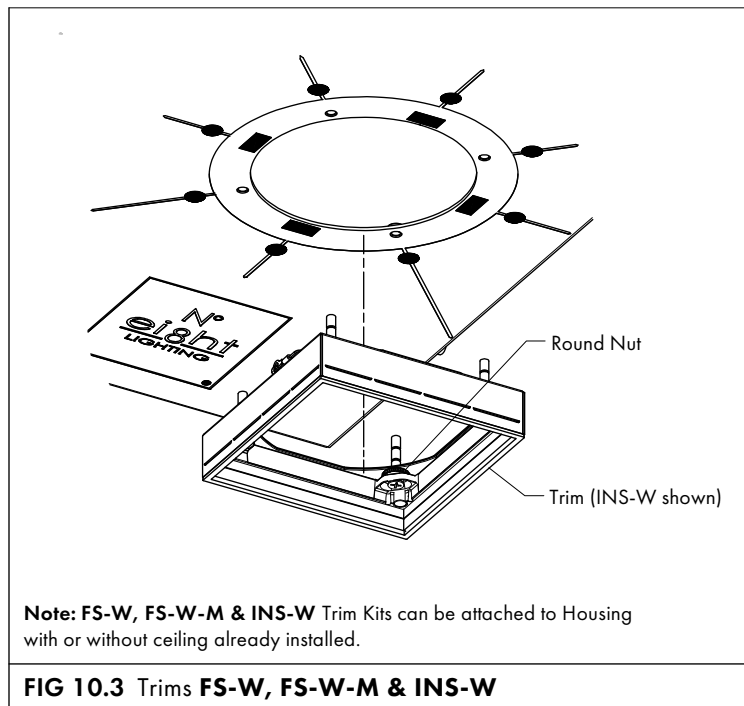

FIG 10.3 Trims **FS-W, FS-W-M & INS-W**
- STEP 7** Position Trim Kit so Break-away Screws line up with Housing holes- **FIG 10.3 & 10.4**.